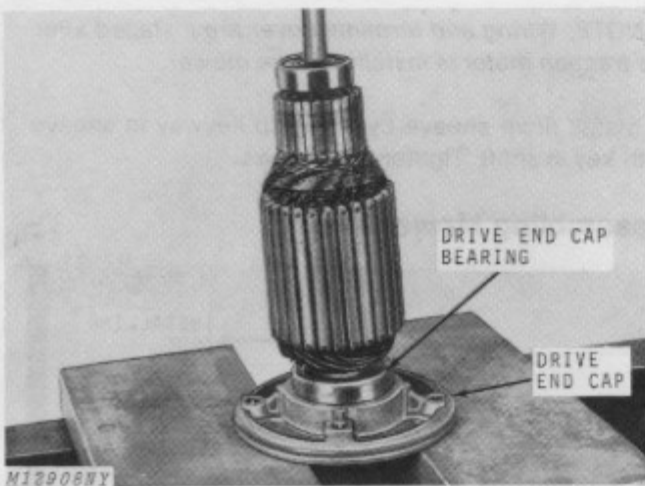

Fig. 24-Installing Drive End Bearing in End Cap
- Install drive end cap bearing, Fig. 24, in drive end cap.